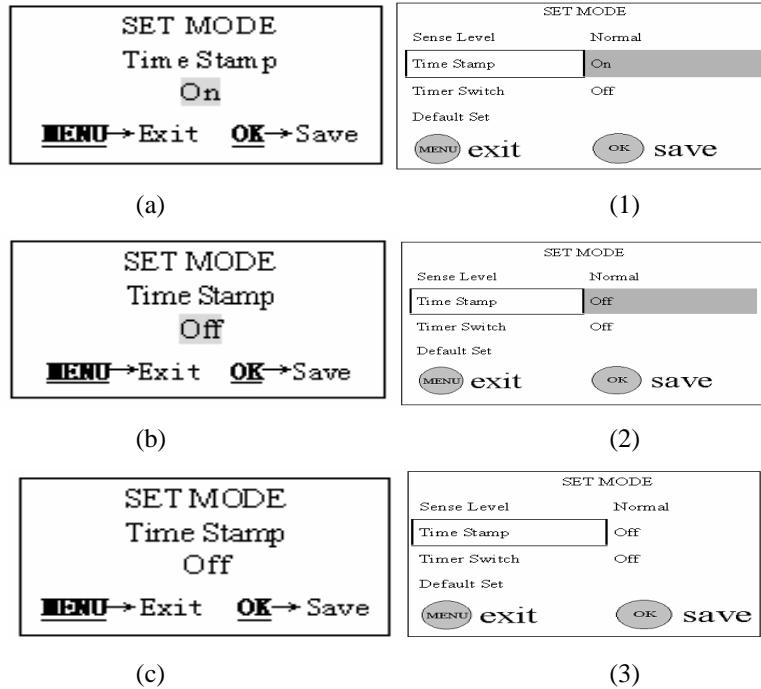

Figure 14: Setting time stamp
- a) Push the UP or DOWN key till the parameter “Time Stamp” appears as shown in the Fig. 14(a) and 14(1).
- b) Push the RIGHT key, the value of the parameter will be changed to “Off” as shown in the Fig. 14(b) and 14(2). The value “Off” is highlighted.
- c) Press OK key for saving setting or MENU key for canceling operation and exiting. After pressing OK key the selected value will be no more highlighted, shown in the Fig. 14(c) and 14(3).